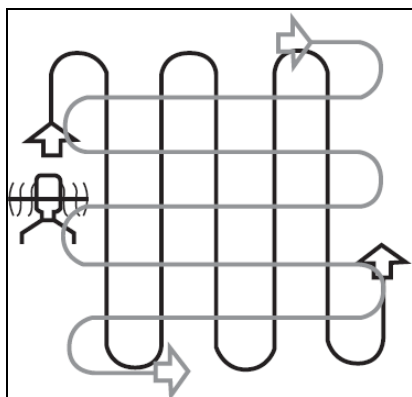

Fig.27
6. Till in slight overlapping rows. The most effective pattern for tilling soils is moving the product up and down in verticals lines, then move the product in horizontal lines from left to right. This will keep the rows even and ensures that all the ground is tilled without missing any spots. (Fig.27)